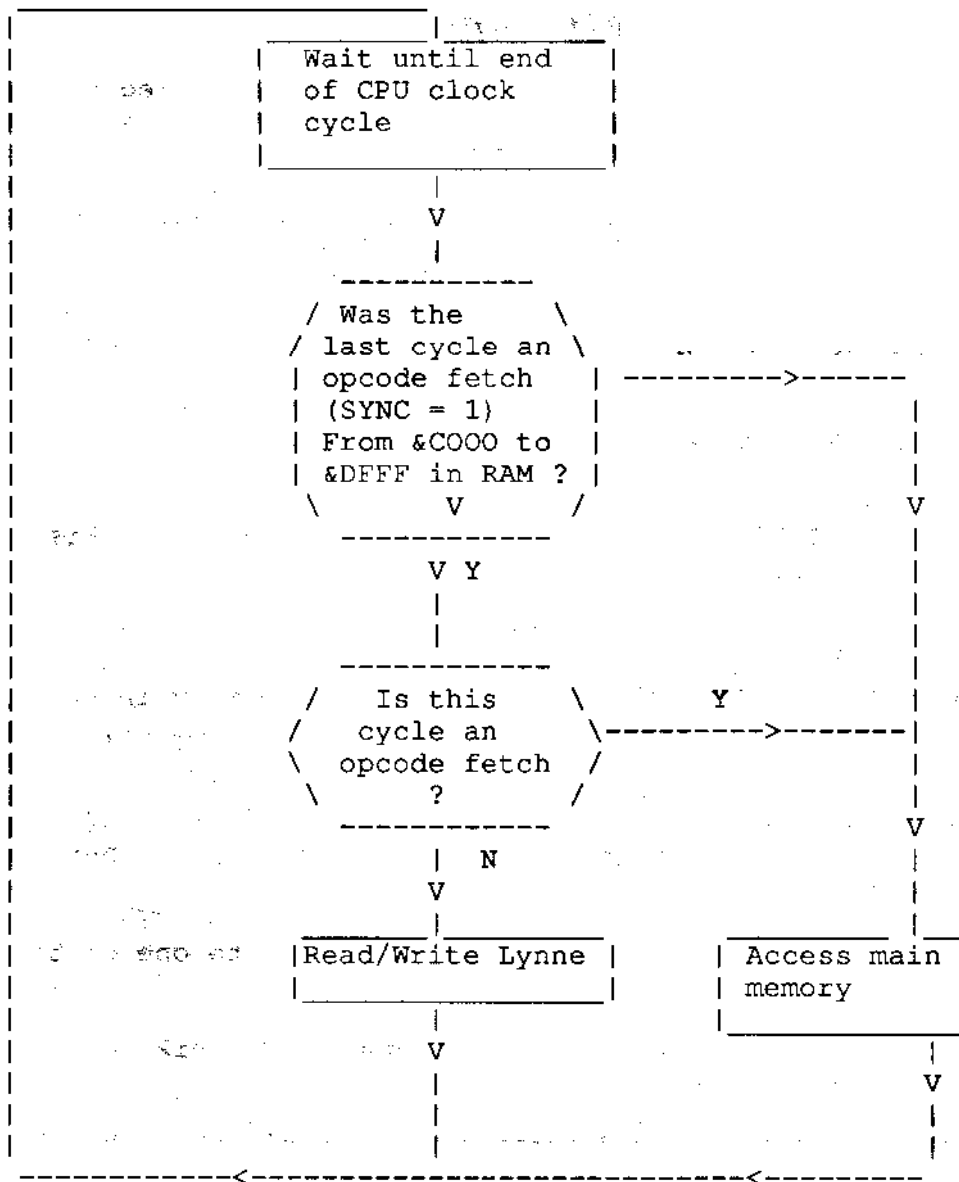

Figure 2
- * When bit E in ACCCON is set, if the address range is &3000 to &7FFF the CPU will read/write Lynne according to the flow shown in figure 2.